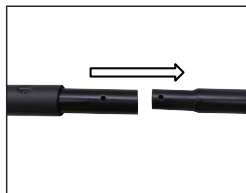

fig 1.
1. Ensuring the locking holes are aligned, insert the upper handle into the lower handle (fig.1).